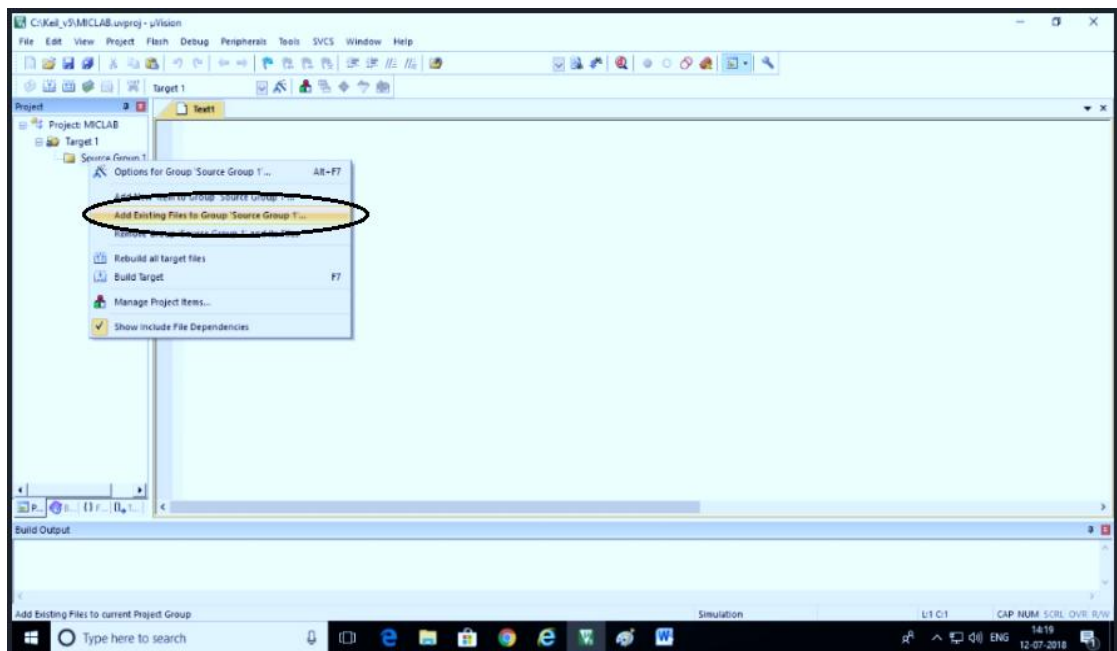

Figure 4.5: Adding files to Source Group Window
8. Right click on source group; Add files to source group 1. (refer Figure 4.5)